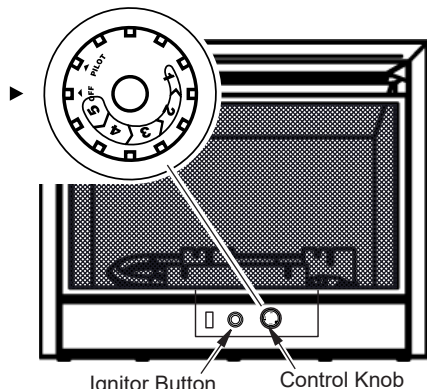

Figure 20 - Control Knob in the OFF Position
4. Wait five (5) minutes to clear out any gas. Then smell for gas around heater and near the floor. If you smell gas, STOP! Follow "B" in the safety information above. If you do not smell gas, go to the next step.
5. Turn control knob counterclockwise  to the PILOT position. Press in control knob for five (5) seconds (see Figure 20).